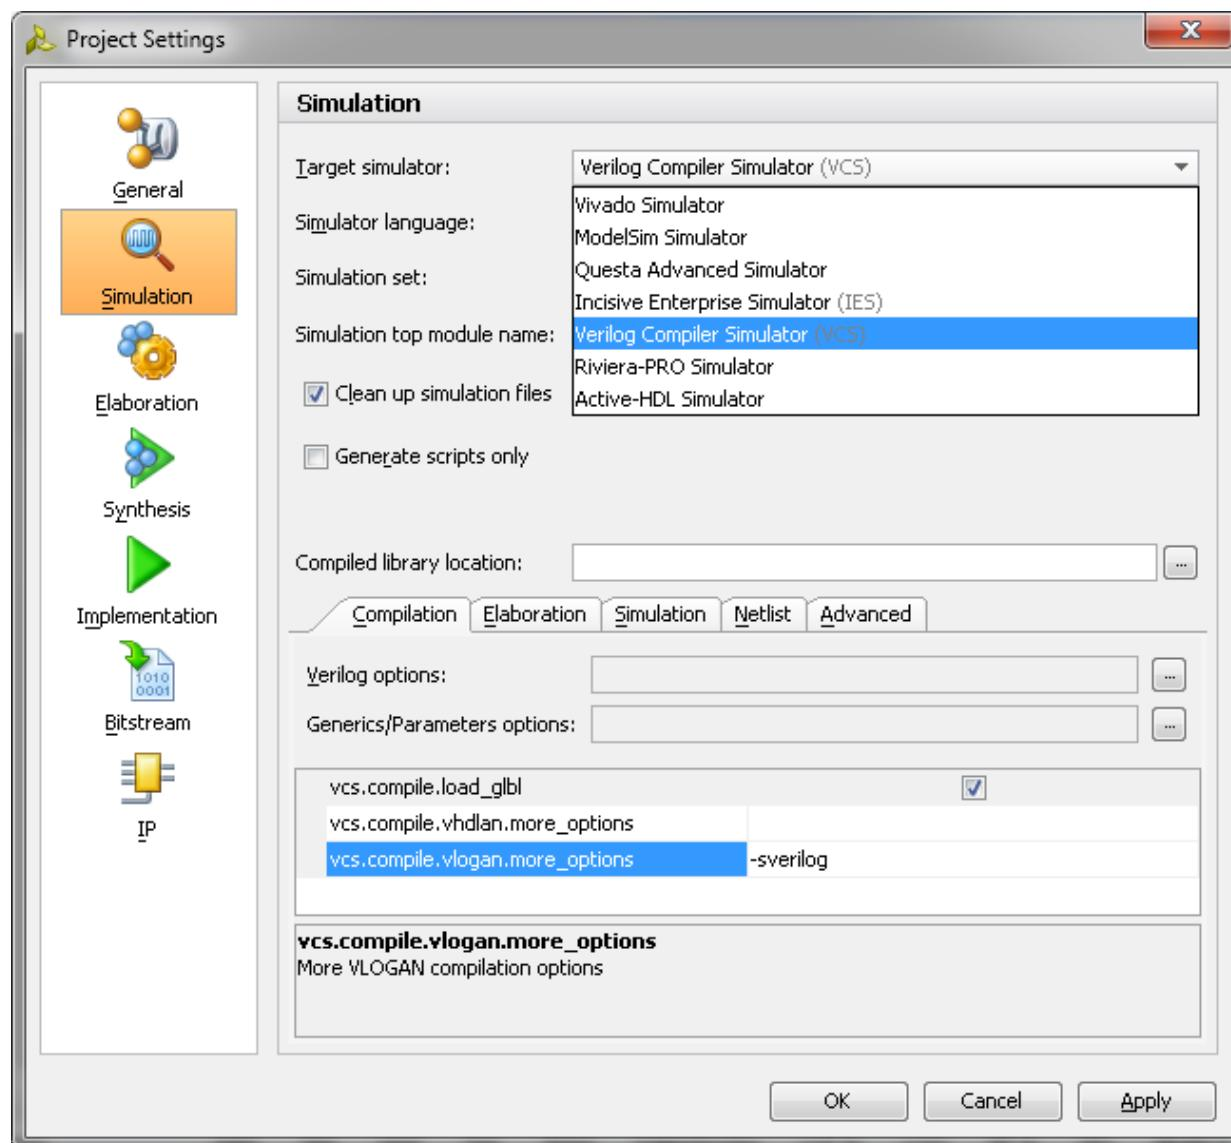

Figure 2-53: Simulation with VCS
- c. Under the **Simulation** tab, set the `vcs.simulate.runtime` to 1 ms (there are simulation RTL directives which stop the simulation after a certain period of time which is less than 1 ms) as shown in Figure 2-53.